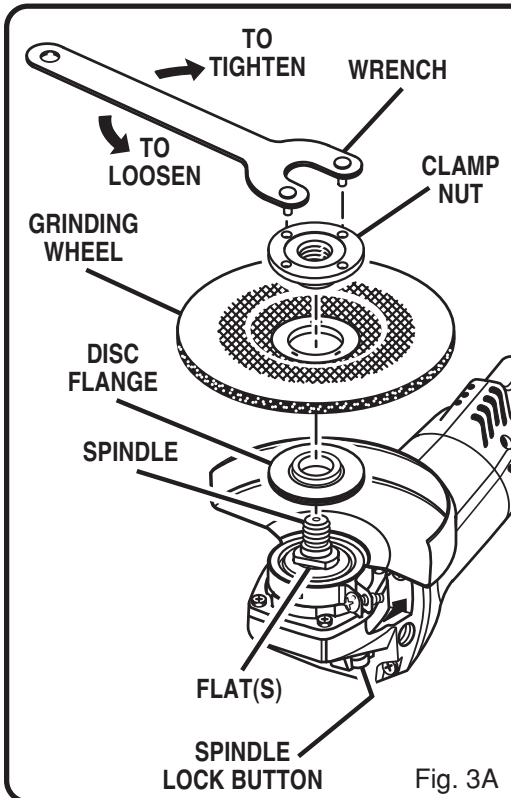

Fig. 3A
See Figures 3A, 3B, and 3C.
- To install grinding wheel and wire wheel brush: Thread the clamp nut on the spindle with the flat side of nut facing up. Fit raised, small diameter portion of the clamp nut into the hole in the wheel and finger tighten. See figures 3A and 3B.